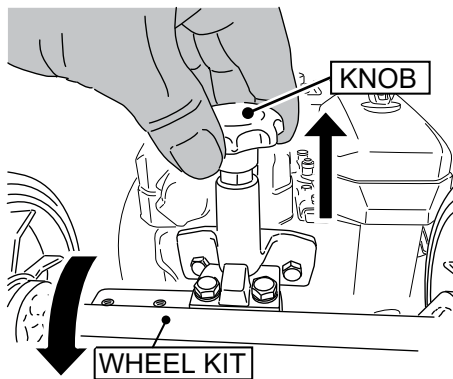

Figure 10. Wheel Kit Stopper Knob
3. Pull the knob of wheel kit stopper and turn the wheel kit until it touches the ground (Figure 10).